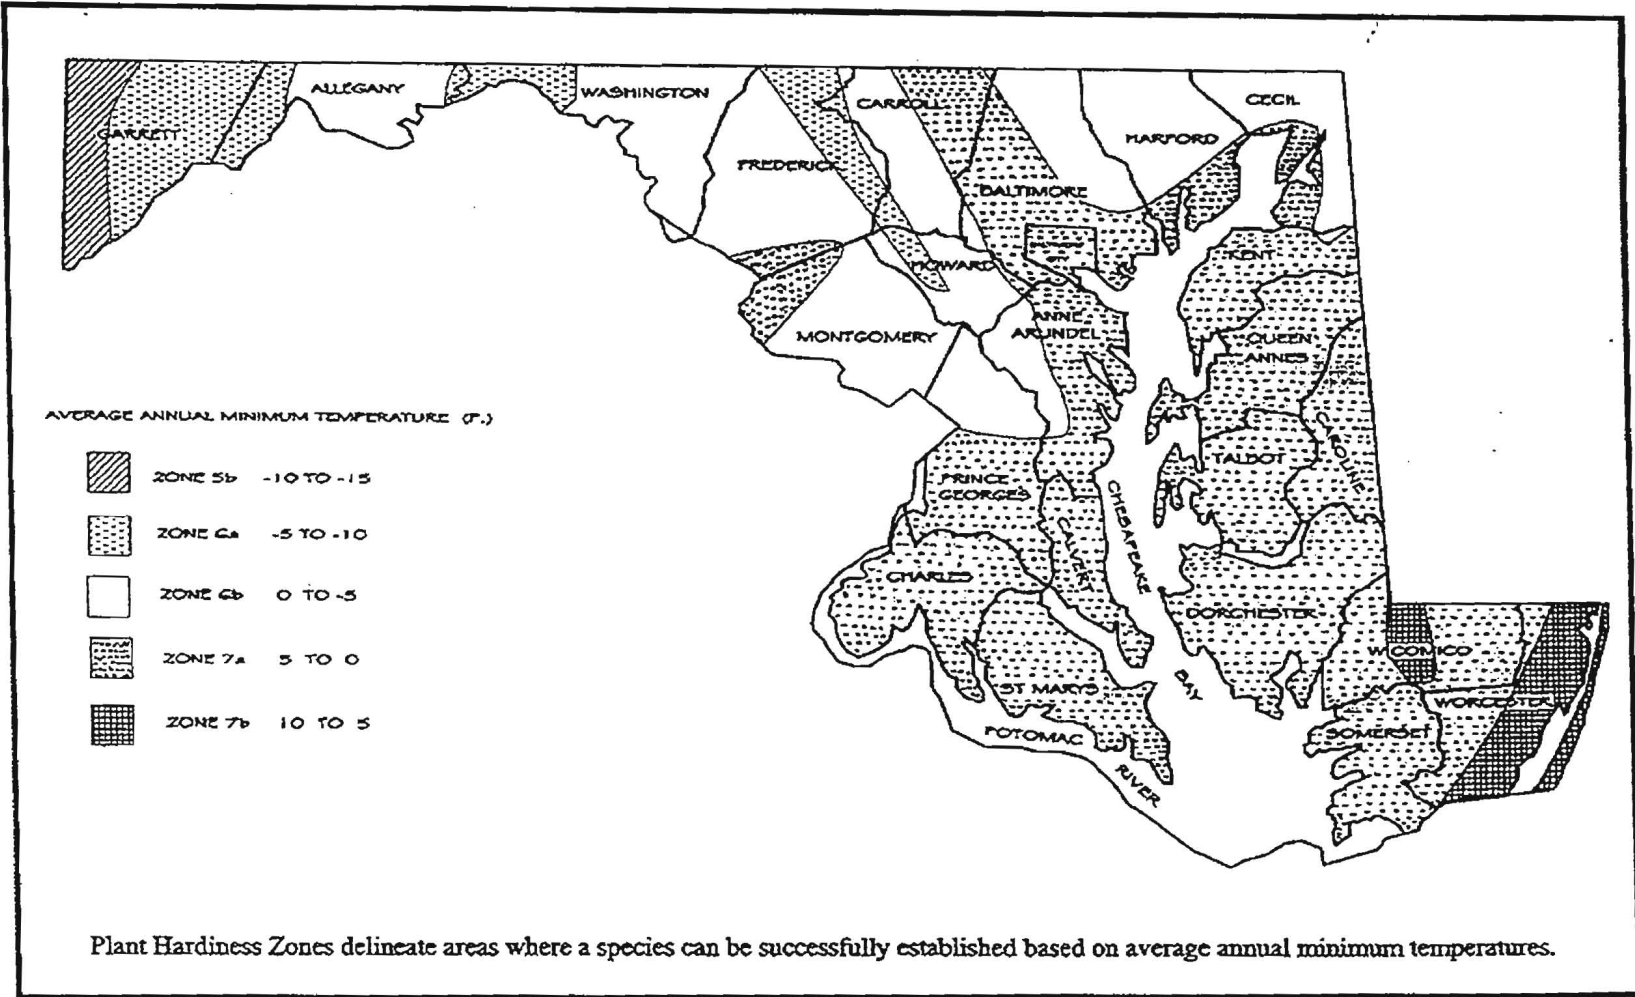

Figure B.3: U.S.D.A. Plant Hardiness Zones
- a. Select one or more of the species or mixtures listed in Table B.3 for the appropriate Plant Hardiness Zone (from Figure B.3) and based on the site condition or purpose found on Table B.2. Enter selected mixture(s), application rates, and seeding dates in the Permanent Seeding Summary. The Summary is to be placed on the plan.
| Hardiness Zone (from Figure B.3): _____ Seed Mixture (from Table B.3): _____ | | | | | Fertilizer Rate (10-20-20) | | | Lime Rate |
1. Select one or more of the species or seed mixtures listed in Table B.1 for the appropriate Plant Hardiness Zone (from Figure B.3), and enter them in the Temporary Seeding Summary below along with application rates, seeding dates and seeding depths. If this Summary is not put on the plan and completed, then Table B.1 plus fertilizer and lime rates must be put on the plan.
| Hardiness Zone (from Figure B.3): _____ Seed Mixture (from Table B.1): _____ | | | | | Fertilizer Rate (10-20-20) | Lime Rate |